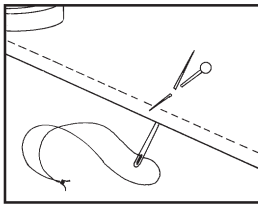

Fig. 14-10
2. Double the thread in the needle and knot both ends together. Bring the needle up from the wrong side to the right side of the garment at the location of the pin. (Fig. 14-10)